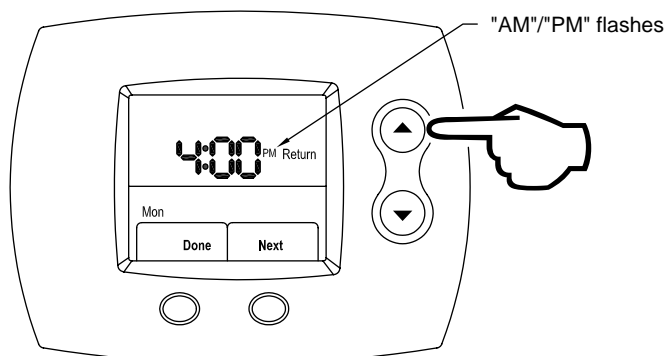

Figure 64
Step 17: Next, using the **UP** (index AM / PM) or **DOWN** (index AM / PM) buttons, select AM / PM, as shown in Figure 64.